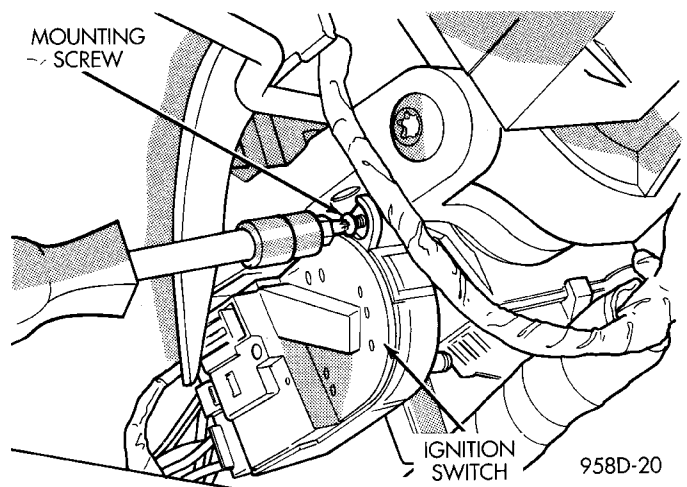

Fig. 7 Ignition Switch Mounting Screw
- (6) Remove ignition switch mounting screw (Fig. 7) with a #10 Torx® tamper proof bit.
- (2) Install electrical connectors to ignition switch.
- (3) Carefully install the ignition switch. The switch will snap over the retaining tabs (Fig. 11). Install mounting screw (Fig. 7).
- (4) Install upper and lower shrouds.
- (5) Install key cylinder (cylinder retaining tab will depress only in the RUN position).
- (6) Connect negative cable to battery.
- (7) Check for proper operation of ignition switch and key-in warning switch.